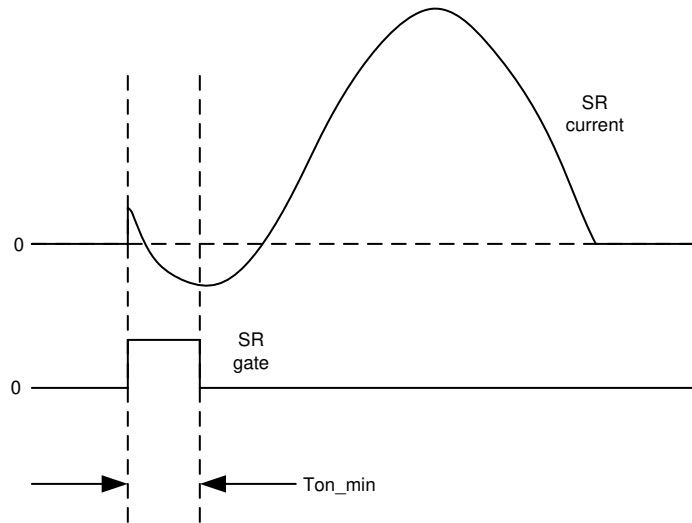

Figure 8-8. SR current with leading edge spike
- Short SR conduction time. At light load, the SR current could start with a short leading edge spike of positive current, followed by the negative current, and then the full positive current, as shown in Figure 8-8. This is caused by the SR parasitic capacitance and the LLC resonant behavior. When the negative current appears, the SR is turned off with minimum on time (on-time blanking). This is the indication that the leading edge current spike causes abnormal operation. Once the short SR conduction time is detected, the IC sets the turn-on delay to 275 ns. This long turn-on delay can further help to reject the leading edge current spike. It also helps to provide better DCM ring rejection during burst mode operation, since the burst mode operation only happens at light load. This increased turn-on delay time is reset when the SR voltage drop is more than 40 mV (V_{DS} more negative than -40 mV) at the middle of its conduction time for 8 consecutive cycles.